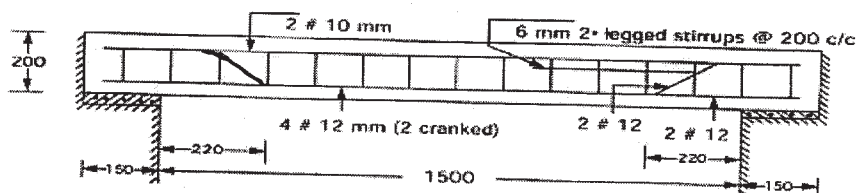

Fig. 1
3. Prepare bar bending schedule and find the total quantity of steel required for main reinforcement of lintel shown in the Fig. 1 below. Top and bottom covers are 25 mm and side cover is 40 mm :